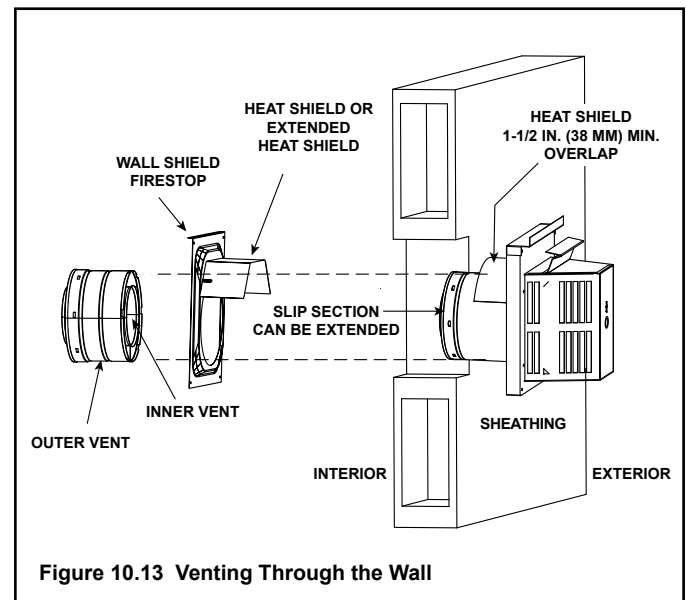

Figure 10.13 Venting Through the Wall
- Caulk the perimeter of the flashing where it contacts the roof surface. See Figure 10.13.
- Secure the cap by driving three self-tapping screws (supplied) through the pilot holes in the outer collar of the cap into the outer flue of the pipe (see Figure 10.13).
- **DO NOT** remove the heat shields attached to the wall shield firestop and the horizontal termination cap (shown in Figure 10.13).
There are two sections of the heat shield. One section is factory-attached to the wall shield firestop. The other section is factory-attached to the cap. See Figure 10.13.